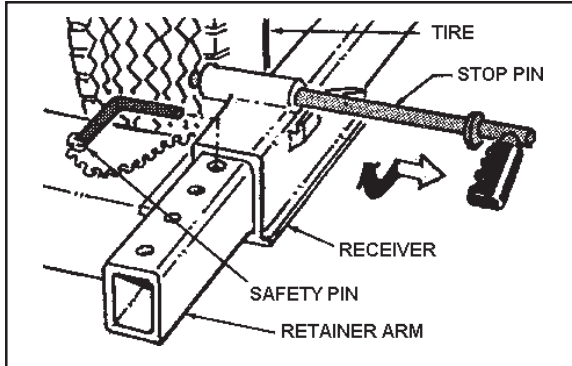

Figure 4-9.
3. At each wheel, withdraw the stop pin from the front of the tire. (See figure 4-9.)
4. At each wheel, remove the safety pin from the top of the retainer arm near the receiver. (See figure 4-9.)